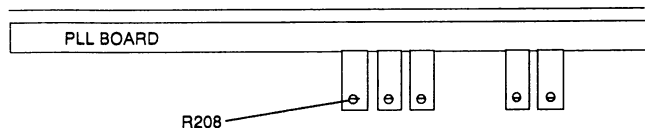

Figure 4-15. R208 Locator
3. Use the **Knob** to step between the sine and square waves. Slide the cover back. Adjust R208 on the PLL board (see figure 4-15) until the peak to peak amplitude of the sine wave matches the peak to peak amplitude of the square wave. Slide the cover back on.